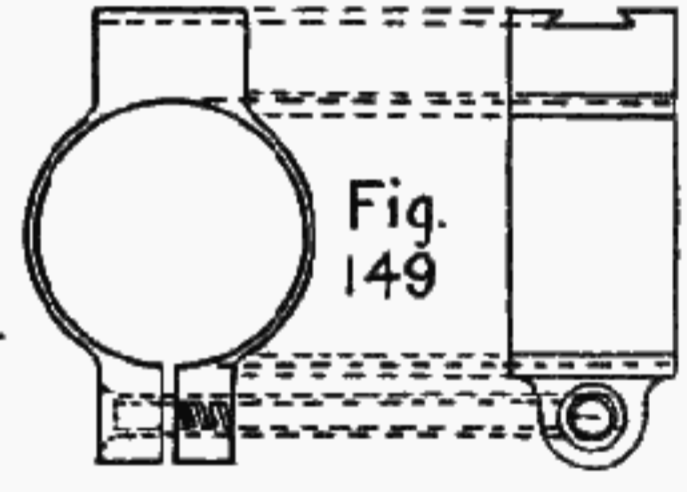

Fig. 149
**SIGHT BASE BANDS.** Many shooters having rifles equipped with peep sights, wish a folding leaf sight on the barrel also. It serves to check the alignment of the peep sight, and would also come into good use if the latter were broken. Figure 149 shows a sight base band to serve a two-fold purpose on a Springfield sporter, and details of its construction will suffice for all bands of the same general type and purpose. This one, fitted to the breech of barrel at the receiver, conceals the unsightly notch or groove where the wedge shaped pin fitted under the military sight base, in addition to providing a new base for the Lyman No. 6 folding leaf. It may be either milled, or sawed and filed from thick walled Shelby tubing having an inside diameter of 1 1/8 inch. (See Chapter 5). The stud forming the dovetail base for the sight should be left full height until after the band is fitted; the method of ascertaining the correct height to cut it to bring the leaf sight to proper height, is fully explained in Chapter 29. The two studs or bosses into which the set screw fits are first shaped up as one, then split by a hacksaw cut which does not go clear through the band until after the screw hole is drilled and tapped. After locating the position of this screw hole and center punching, use a No. 18 drill until the sawcut is reached; then drill on through the other half of boss with a 29 drill, and tap this hole for an 8 x 32 screw. Countersink the No. 18 hole for the screw head, which may be filed down a little to flush it. Then saw on through the band. This may be attached without removing the front sight by merely spreading it slightly with a screwdriver and fitting into place, then tightening up the setscrew. The band and lower projections must then be spotted and inletted into the stock.